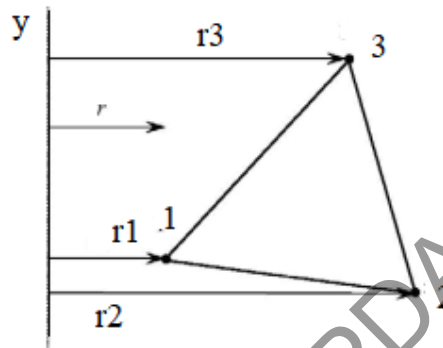

Figure 4.
- 6 a) Evaluate the axisymmetric stiffness matrix 'K' of the triangular element [8] shown in the Figure 4. Consider the coordinates of nodes as 1 (2, 1), 2 (4, 0), and 3 (3,2). Also assume $E = 2.6 \text{ GPa}$ and $\nu = 0.2$